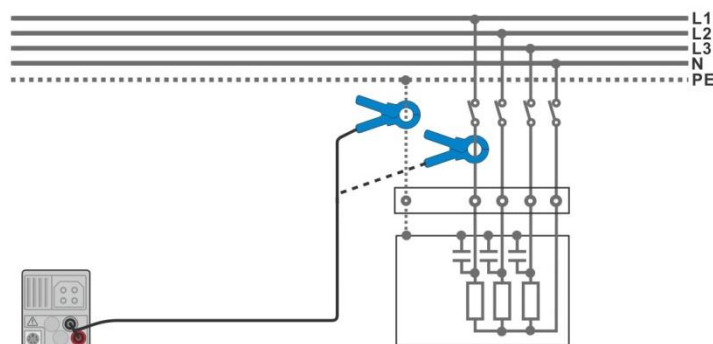

Figure 7.69: PE leakage and load current measurements
- › Connect the clamp to the object under test, see **Figure 7.69**.